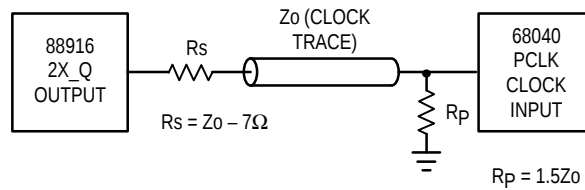

Figure 3. MC68040 PCLK Input Termination Scheme
3. The pulse width spec for the Q and 2Q_X outputs is referenced to a V_{CC}/2 threshold. To translate this down to a 1.5V reference with the same pulse width tolerance, the termination scheme pictured in Figure 3 must be used. This termination scheme is required to drive the PCLK input of the 68040 microprocessor with the 88916 outputs.